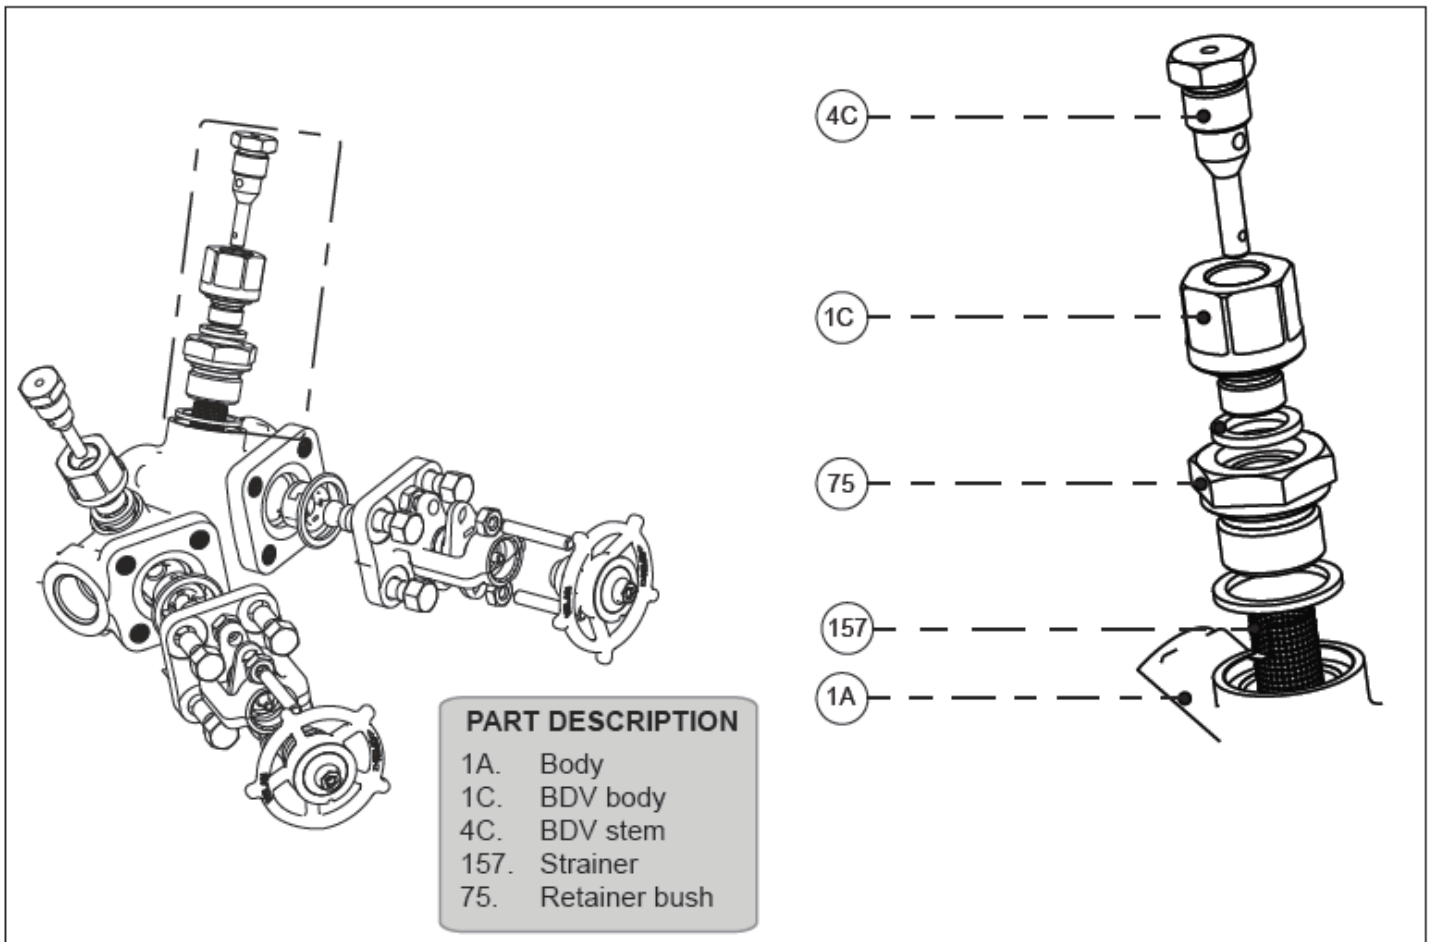

Fig 6.2: Blowdown Valve Construction
1. Blow down consist of three main components Viz. BDV Body (1C), Stem (4C) and retention pin as shown in figure 6.2.
2. The body outer thread is fastened with the retainer bush (75), which in-turn mates with the main valve body (1A).